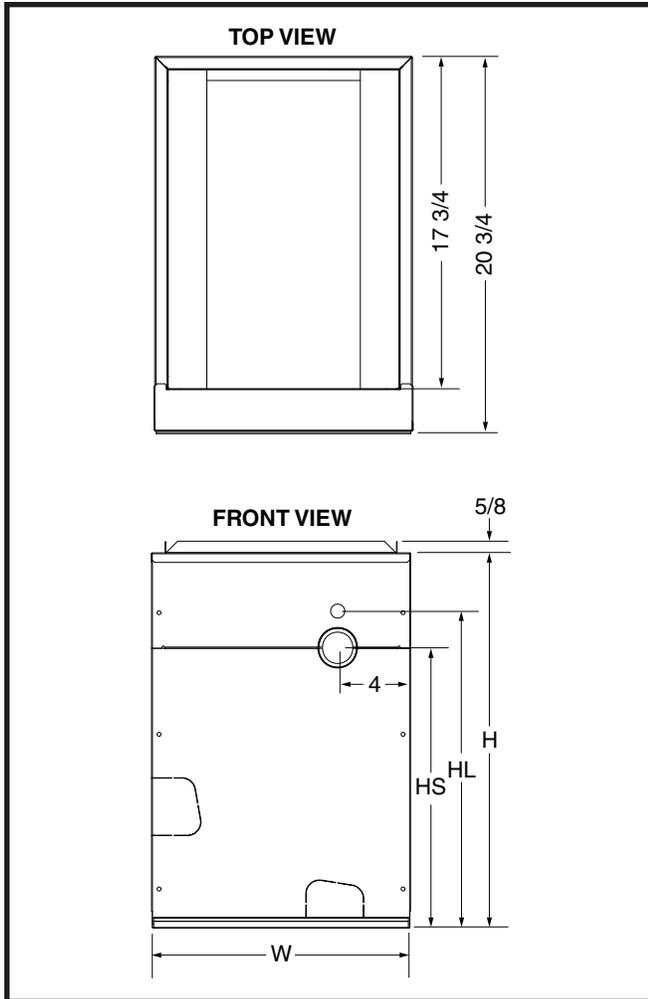

Figure 1. Coil Dimensions
2. Install the coil case on the furnace air discharge opening. If needed, use a coil case adapter kit to match them together. See Figure 1 (page 5) for case dimensions.